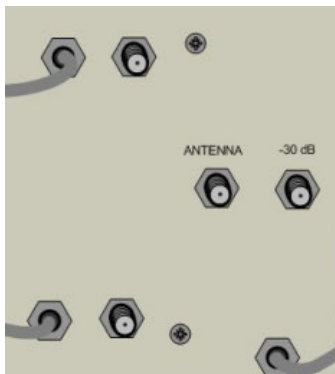

Figure 1: Antenna Connection
2. Connect the antenna source as shown in Figure 1.